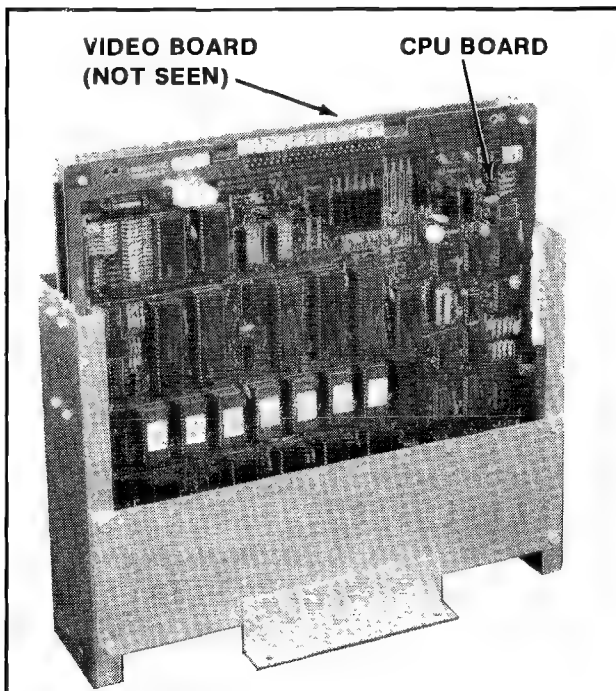

Figure 20 Removing Video & CPU boards from card rack
- To remove the video and CPU boards. See Figure 20.